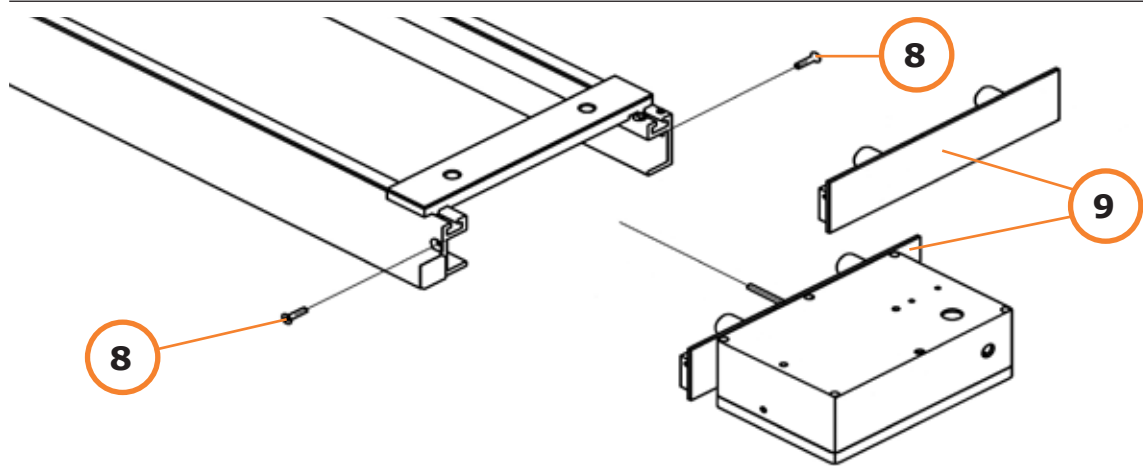

Fig. 8
- 4.4.1 If the front side cover is still mounted on the ceiling track, you can remove it by loosening the counter sunk screws (8/Fig. 8) that secure the front side cover (with/without cable spooler) to the ceiling track.
- 4.4.5 Mount the front side cover (9/Fig. 8) back to the front side of the track. Insert the counter sunk screws (8/Fig. 8) and tighten with 7 Nm torque.